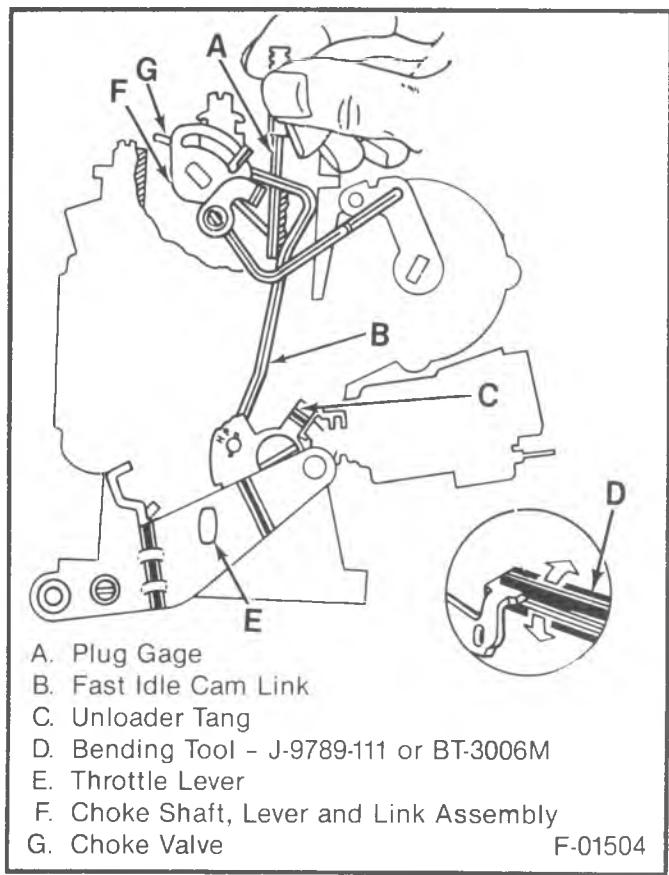

Figure 43 – Unloader Adjustment
(Figures 43, 44)
- If adjustment is needed, bend the unloader tang on throttle lever as shown in inset of Figure 43.